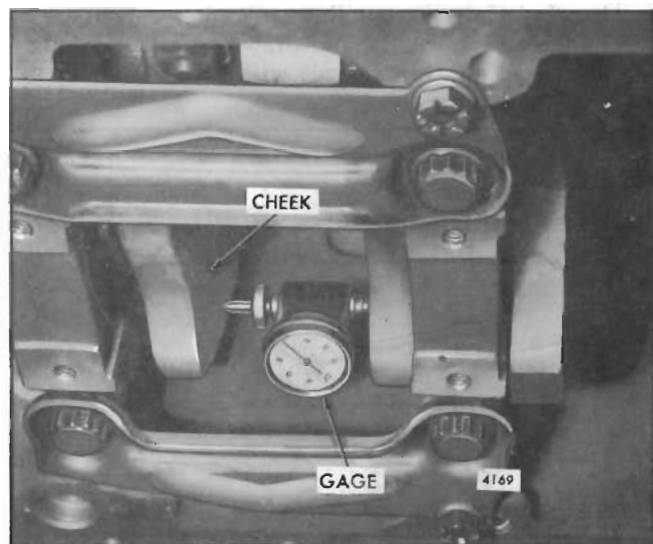

Fig. 12 - Crankshaft Distortion Measuring Gage Mounted on Crankshaft
- c. Install a gage (Starrett Co. No. 696 dial gage, or equivalent) in the center punch holes in the cheek of each counterweight as shown in Fig. 12.